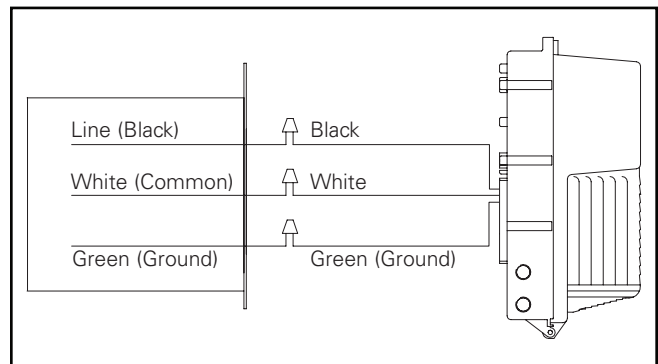

Figure 3
5. Splice the branch circuit power leads to the fixture power leads, black to black (hot), white to white (neutral), and green to green (ground). (Figure 3)